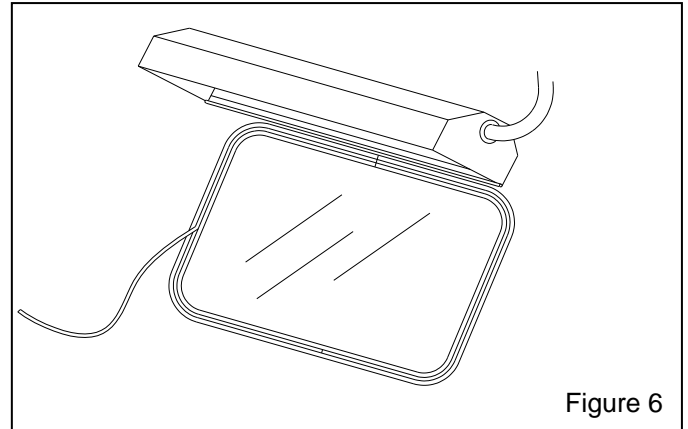

Figure 6
**6.3.1** Swing the light-shield up and tie it in place, as shown in Figure 6.
**6.3.2** Remove the filler strip by pulling it out of the window molding, as shown in Figure 6.